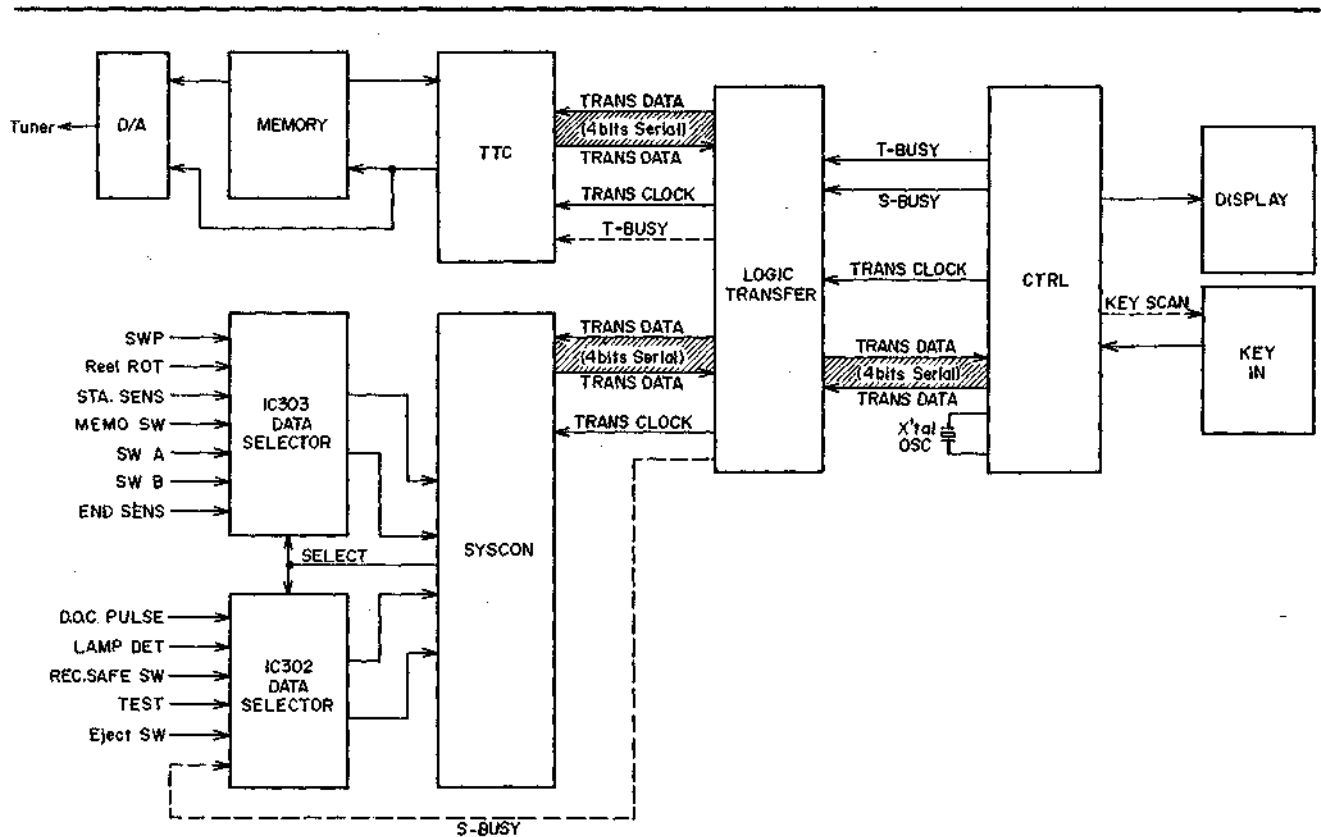

Fig. 43
In T-Busy cycle, IC306 ② / ⑬ becomes 'H' and IC306 ⑥ / ⑧ becomes 'L', and data is inputted into IC301 ⑦, and the data from IC301 ⑤ is inputted into IC306 ⑤ and outputted from IC306 ④. TTC/Syscon/CTRL signal block diagram is shown in Fig. 43.